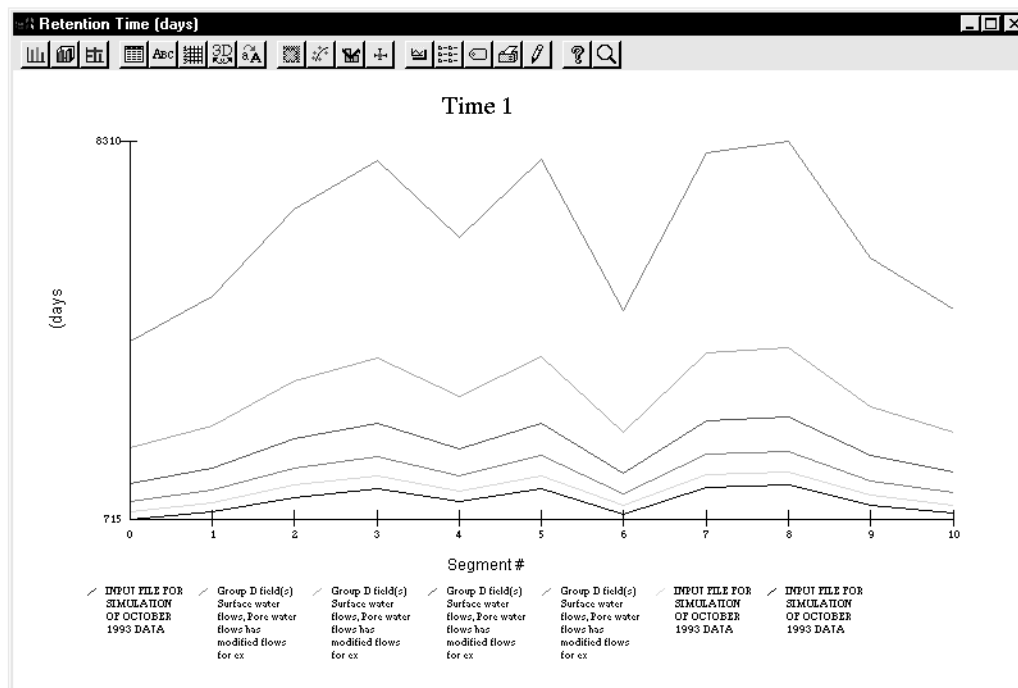

Figure 63: Report Graph
3. The **Play** button steps through each time step and updates every graph; *Figure 63*.